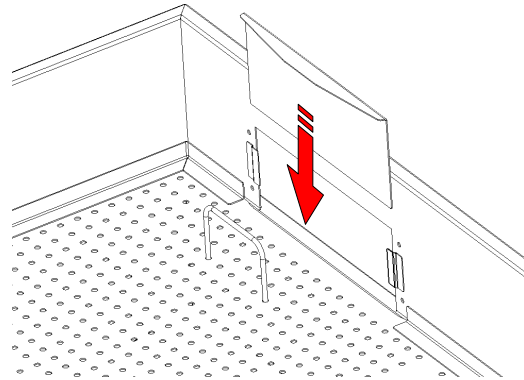

Figure 5: Popcorn chute baffler
9. Insert three popcorn chute bafflers, see Fig.5